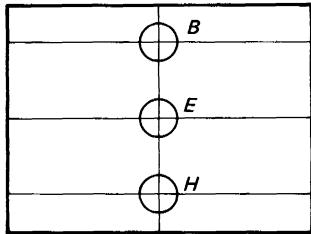

Fig. 3-51
- (5) When the red vertical center line does not coincide with the green vertical center line as shown in Fig. 3-51, repeat above steps (2) through (4).